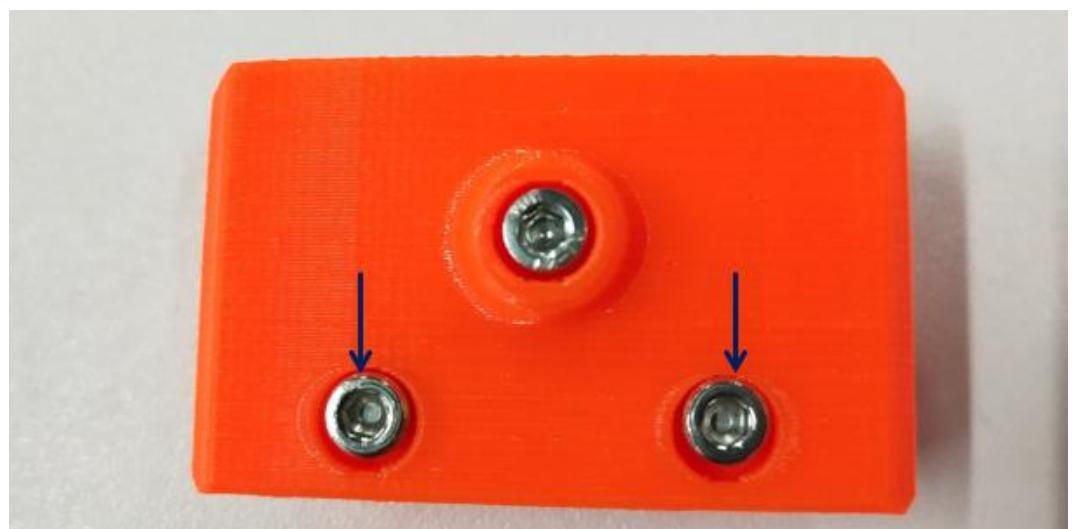

Figure 2.9.5
**Step 2-9-4:** As shown in Figure 2.9.5, pre-tighten the two M3 × 12 cylindrical head bolts into the two bolt holes of MINI-x-end.